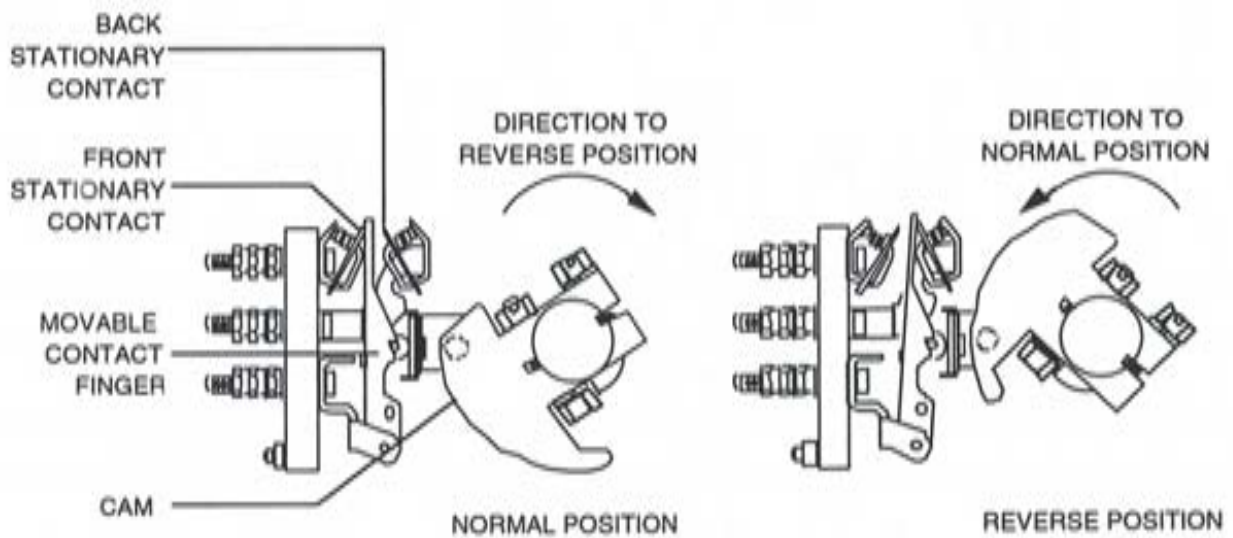

Figure 5-6. Normal Contact Operation
4. Front stationary contacts and finger contacts should be touching. Refer to Figure 5-6. To adjust cam for contact touching, insert the screwdriver blade in the slot of the clamping screw.
6. Remove the screwdriver and insert blade into the slot of the adjusting screw on the same cam. Turn screw and bring up the moveable contact fingers so that they just touch the front stationary contacts. Refer to Figure 5-6.